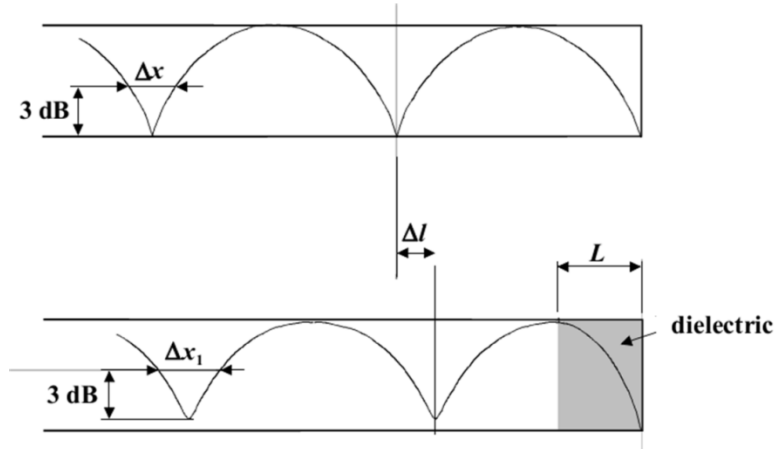

Fig. 1. Standing waves in the empty and filled waveguide terminated by the short circuit
where Δx and Δx_1 , the distances between the 3 dB points (with respect to the minimum), are specified in Fig. 1. The positions of the minimums and the 3 dB points can be measured using the slotted section and SWR meter.
At this point we want to simulate changing the material of the sample from vacuum to any of the materials we are working with. Therefore, right click on the *object Sample>Assign Materials* and select the corresponding material and run the simulation. According to Fig. 1, the minimums are shifted. Locate the position p_1 of the minimum the closest to the position p in the direction of the load and calculate $\Delta l = p - p_1$. Measure Δx_1 in the same manner as you did for Δx . From these values compute ϵ' and $\tan \delta$ using (6)-(8). Compare the obtained value for ϵ' and ϵ' obtained by the first method. A reasonable agreement between the two results is the confirmation that a good value for the variable x has been chosen.